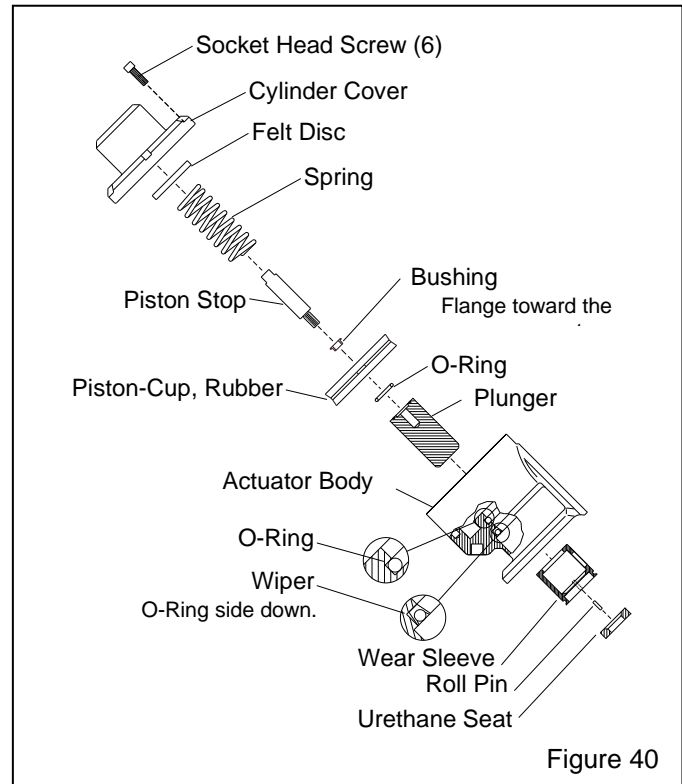

Figure 40
7.7.4 Refer to Figure 40 and unscrew the six socket head screws, and then remove the cylinder cover, spring and felt disc. Spring compression is removed when the cover is approximately 9/16" from the actuator body.
7.7.11 Replace the wiper and O-ring in the actuator body, the O-ring side of the wiper must face toward the bottom of the body, as shown in Figure 40.